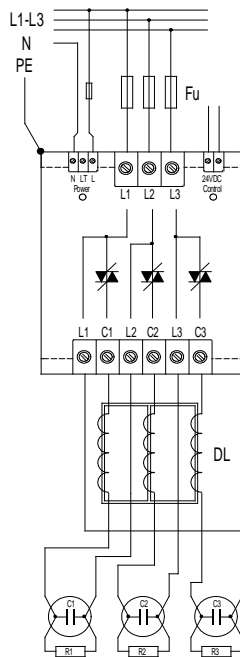

Fig. 7
- A choke, or inductance, is connected between the circuit breaker and the switching module with detuning reactors (see Fig. 1 through 6). It is also possible to connect it between the switching module and capacitors (see Fig. 7). **But chokes of different inductance must be used in such case.** Except of this the wirings have the same features.